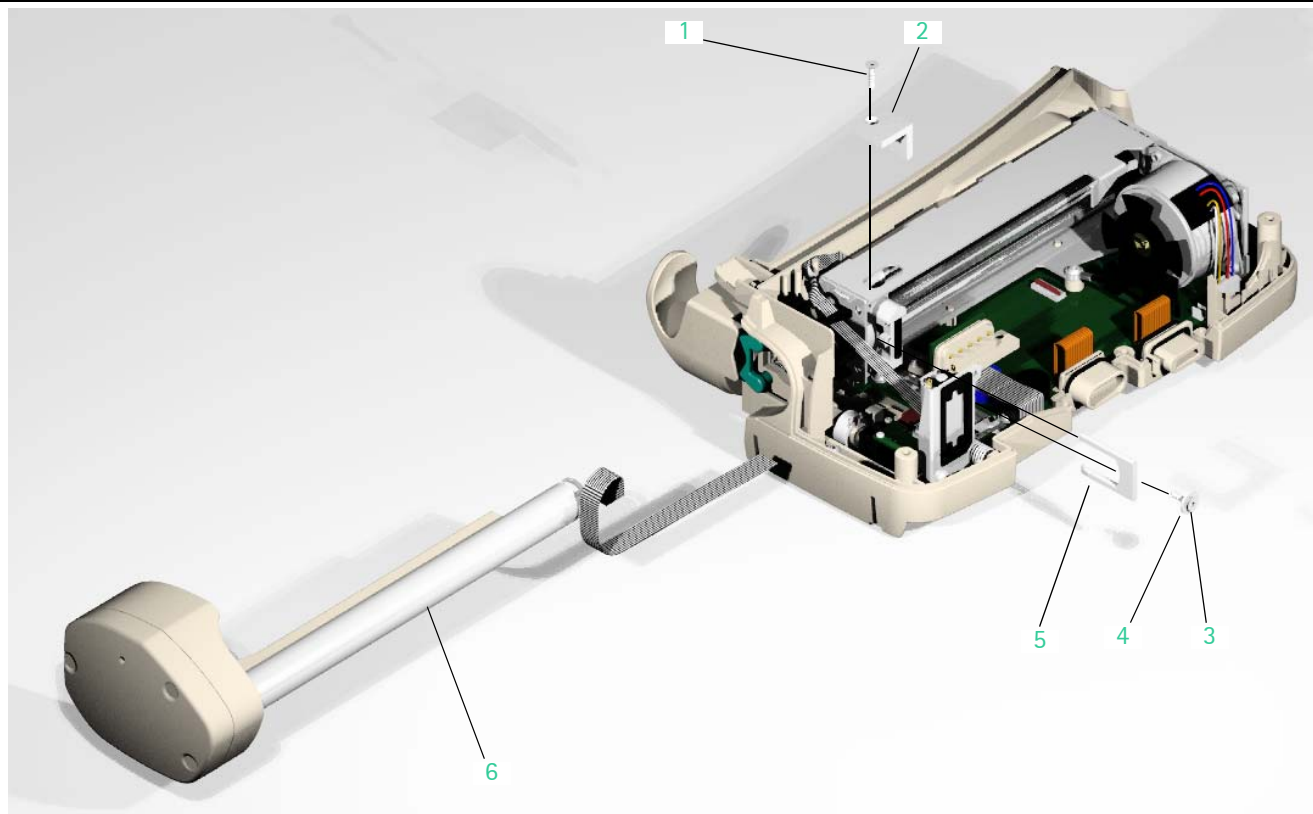

Fig.: 3 - 23
5. Pull out the drive head (Fig.: 3 - 23 / Item 6) together with the driving tube and the guide rail carefully from the drive assembly.
Legend of fig. 3 - 23: